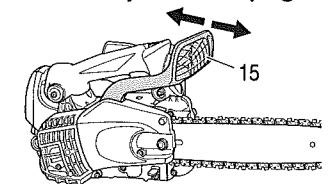

Fig. 10
1. Pull the chain brake (15) toward the front handle to check that the brake is disengaged. (Fig. 10)
Chain brake operation (Fig. 10)